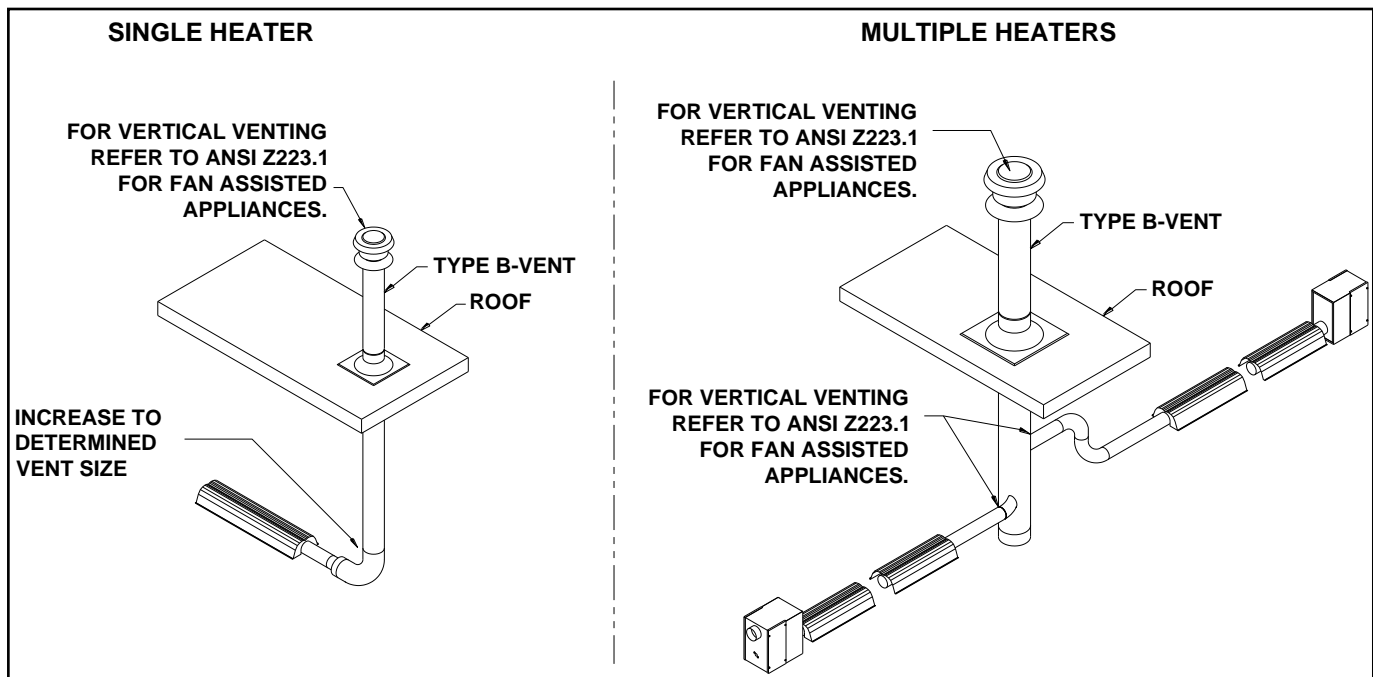

Figure 26: Common Vertical Venting
- Refer to Figure 26 for detailed Common Vertical Venting guidelines.